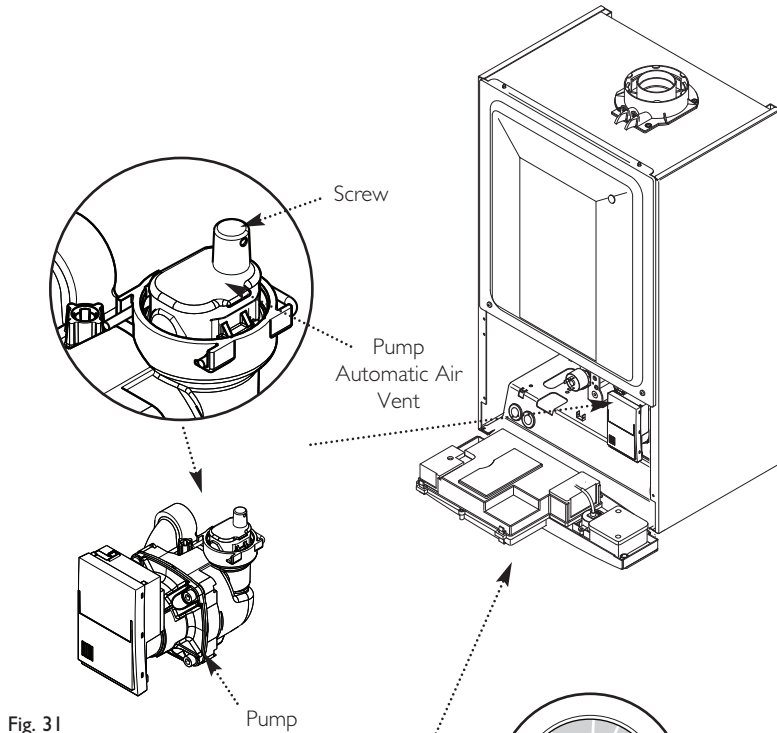

Fig. 31
4. Open the screw on the automatic air vent on the pump body (Fig. 31).